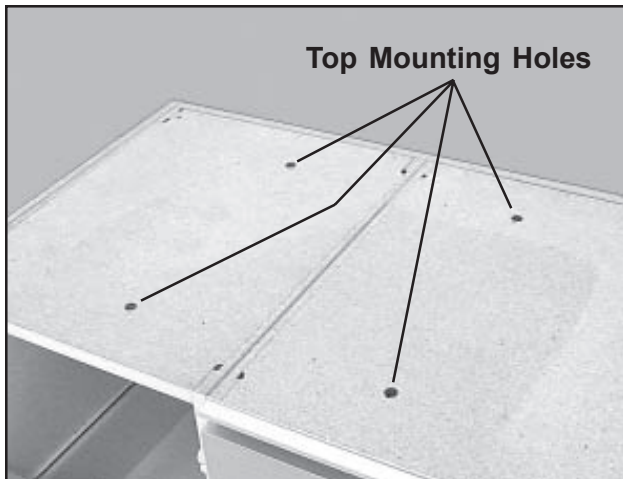

Figure 23. Stainless Steel Top Mounting Holes
5. Place the new exam top on the table with the four mounting screws into the four holes (Figure 23) on the upper surface of the table.